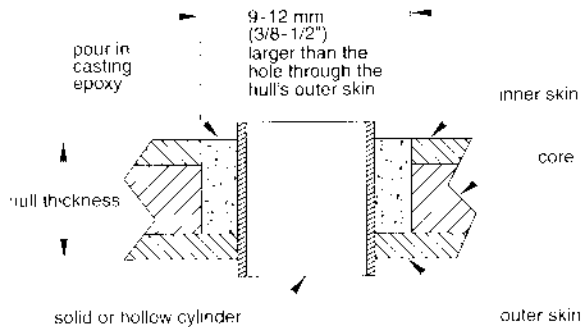

Figure 4. Preparing a cored fiberglass hull
2. Using the appropriate size OUTSIDE HULL hole saw, cut a hole from outside the hull through the *outer* skin only (see table on page 1) (see Figure 4).